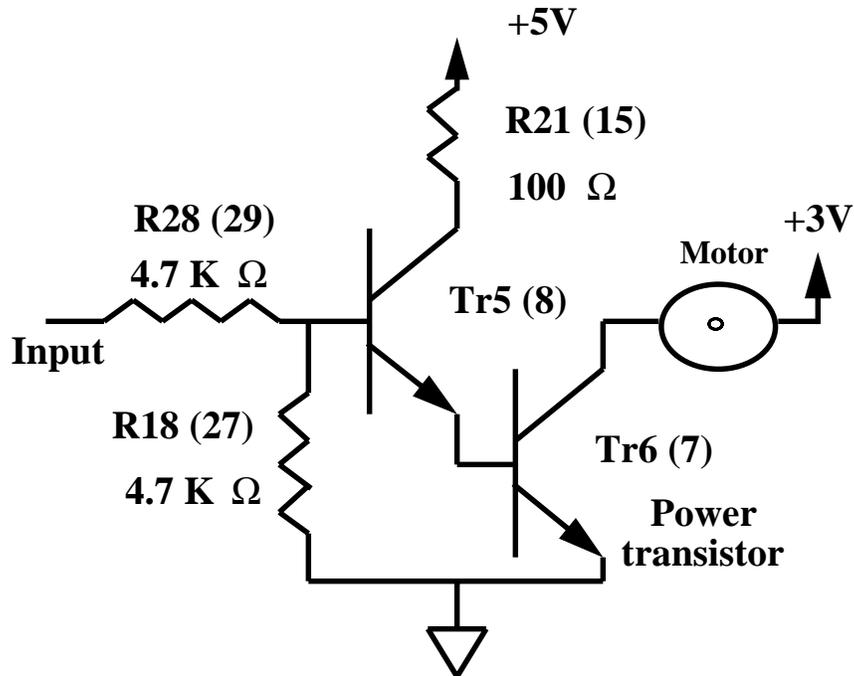
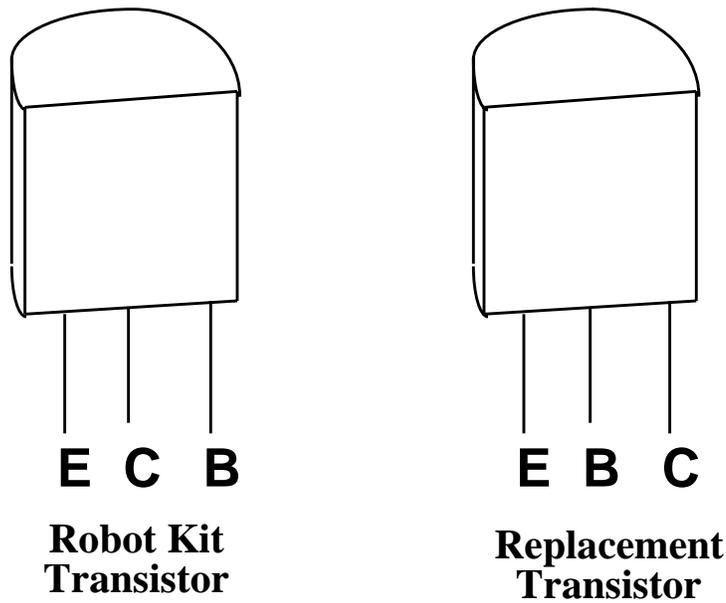
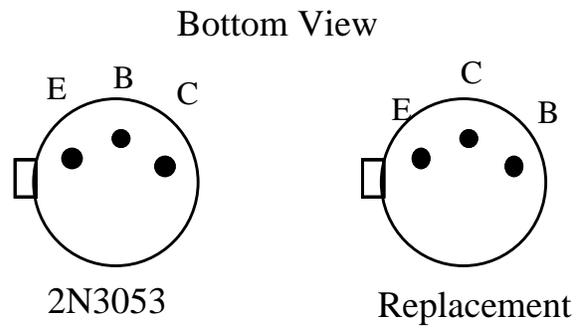

Figure 6.1 Motor driver circuit.
Figure 6.5 The physical appearance of the Bipolar transistor.
Figure 6.6 Pinout of Replacement Power Transistors.
Fig. 6.1 shows the circuit diagram for one of the two identical motor driving circuits in the robot. Just as in the LED circuit, the input is digital and will be a high (5V) or a low (0V). For a high input, both transistors will be turned on. The voltage at the base of Tr5 will be two diode voltage drops (about 1.4V) above ground. Some of the current that goes through R28 will continue through R18. The rest of the current will go into the base of Tr5. We can estimate I_B of Tr5 as follows. The current through R18, by Ohms Law, is $1.4V / 4.7K\Omega = 0.3mA$. Assuming that the input voltage is +5V, then the current through R28, by Ohms Law, is $(5V - 1.4V) / 4.7K\Omega = 0.77mA$. Therefore, $I_{B5} = 0.77mA - 0.3mA = 0.47mA$. R21 will limit the current I_{C5} . When Tr5 saturates, $V_{CE5} = 0.2V$. Given that $V_{BE6} = 0.7V$,
3. Next, build the Motor circuit on the protoboard as shown in Fig. 6.1. Tr5 is a 2SC1815 and Tr6 is a 2SC2120 (pinout is shown in Fig. 6.5 and Fig. 6.6). If you mix these up, your motors will not run as well.
4. Before attaching one of the motors, measure its resistance using the DMM. Then, attach the leads from one of your motors as shown in Fig. 6.1.